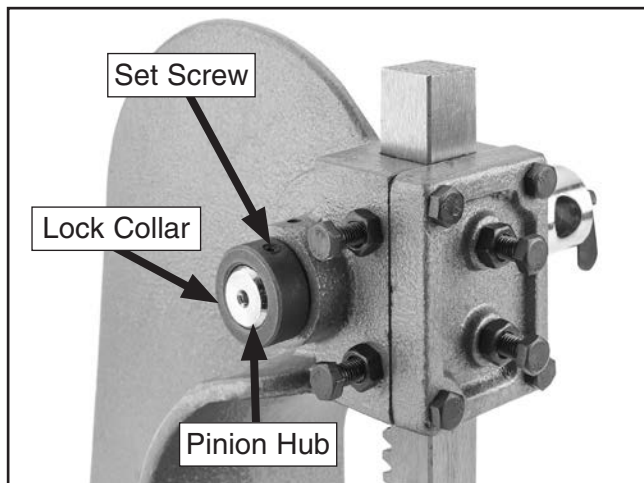

Figure 7. Pinion hub and lock collar assembly.
2. Install lock collar on pinion hub (see **Figure 7**) and tighten set screw.